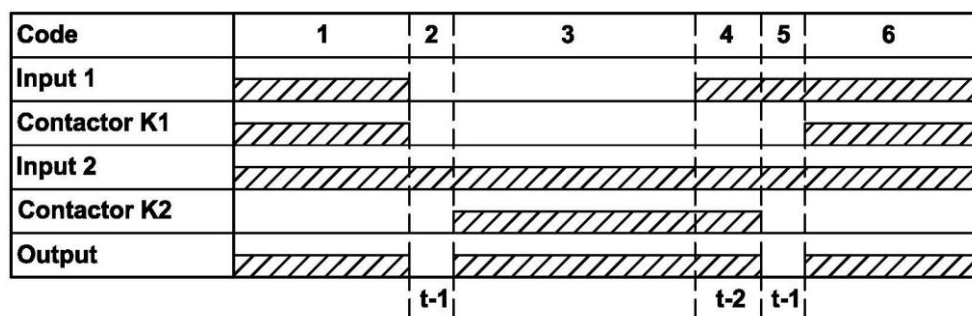

Fig. 5 – Diagrams of work with priority **input 1**
6.2.1.2 Figure 5 shows the diagrams of work with priority input 1 (Work with priority input 2 is similar).
Detailed description of Figure 5: